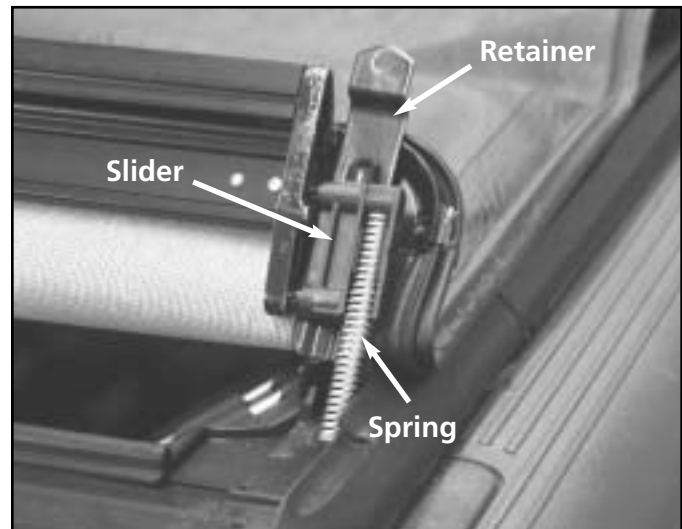

Figure S-50
3. Remove the slider retainers and pull the cover back and up in order to expose the motor cover. See figure S-50.
18. Move the tonno cover over the motor cover and front rail. Be sure the slider, slider spring and slider retainer are installed. Refer back to figure S-50.